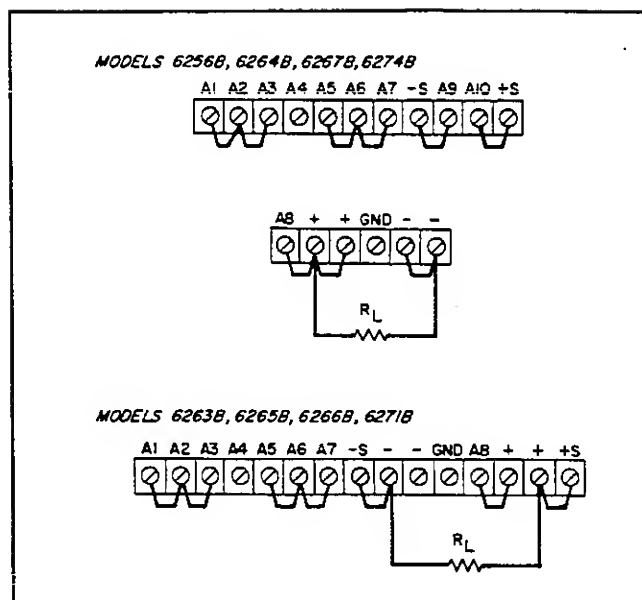
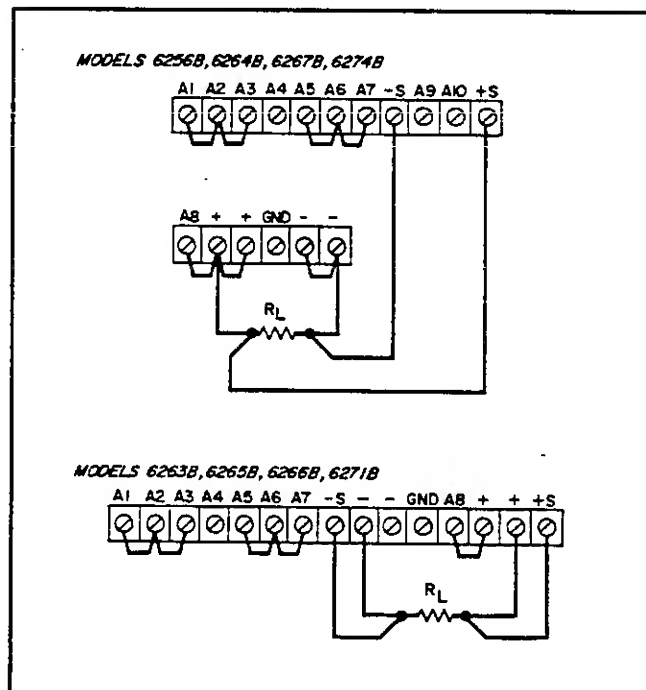

Figure 3-2. Normal Strapping Patterns
Figure 3-3. Remote Sensing
a. Turn CURRENT controls ⑦ and OVERVOLTAGE ADJUST potentiometer ⑤ fully clockwise and check that rear panel straps are connected as shown in Figure 3-2, but do not connect load  $R_L$ .
terminals (see Figure 3-2), and turn it back on.
3-7 This power supply was shipped with the proper rear panel strapping connections made for constant-voltage/constant-current operation with local sensing and local programming. This strapping pattern is illustrated in Figure 3-2. By means of the front panel voltage and current controls, the operator selects either a constant-voltage or a constant-current output. Whether the supply functions in the constant-voltage or the constant-current mode depends on the settings of the voltage and current controls and on the resistance of the output load. For values of load resistance greater than a critical crossover value equal to the voltage setting divided by the current setting, the supply
3-26 Because of the unavoidable voltage drop developed in the load leads, the normal strapping pattern shown in Figure 3-2 will not provide the best possible voltage regulation at the load. If, for example, one were to use 8-gauge wire to connect a load that is located only 5 feet from a Model 6256B 10V 20A supply, the regulation measured at the load would be about 120 millivolts as compared to the 1.2 millivolt regulation that could be measured at the supply's output terminals. Thus even relatively short load leads can cause a considerable degradation of the supply's performance. The remote sensing connections shown in Figure 3-3 improve the voltage regulation at the load by monitoring the voltage there instead of at the supply's output terminals. (The advantages of remote sensing apply only during constant voltage operation. This is because in the constant current mode the resistance of the load leads has no adverse effect on a supply's performance.)
3-27 As can be seen in Figure 3-3, remote sensing involves removing the (+S) and (–S) jumpers from the rear panel terminals, connecting the load leads normally, and using a separate pair of wires to connect the (+S) and (–S) sensing terminals to the load. The following paragraphs discuss some precautions that should be observed when making a remote sensing installation.
*The (+S) jumper is the one that links the (+S) terminal to the (+OUT) or (A10) terminal when the supply's terminals are strapped for normal operation as shown in Figure 3-2. The (–S) jumper is the one that links the (–S) terminal to the (–OUT) or (A9) terminal.*